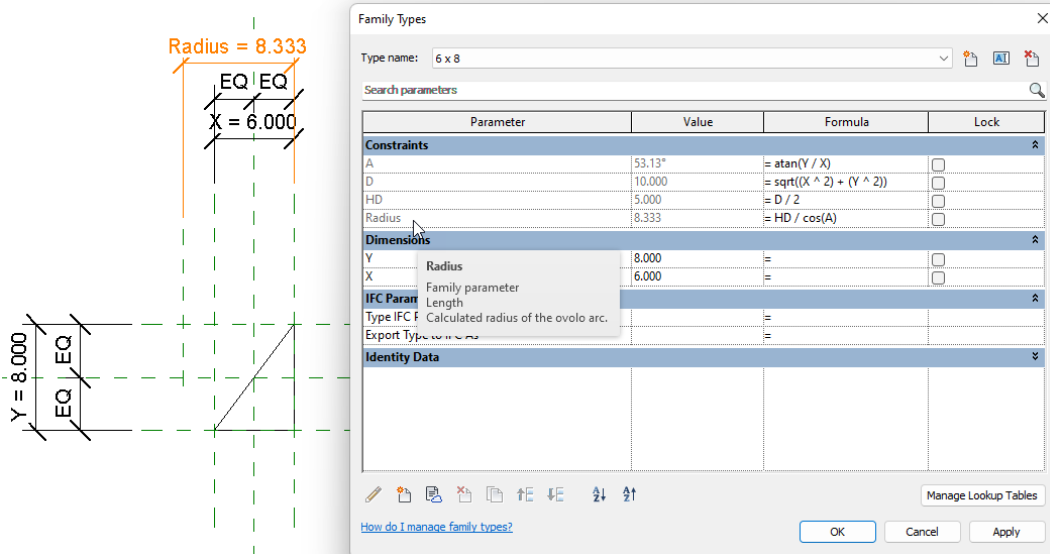

Figure 24—Create the parameters and assign the formulas
5. Input the formulas as shown in Table 1 and in Figure 24: